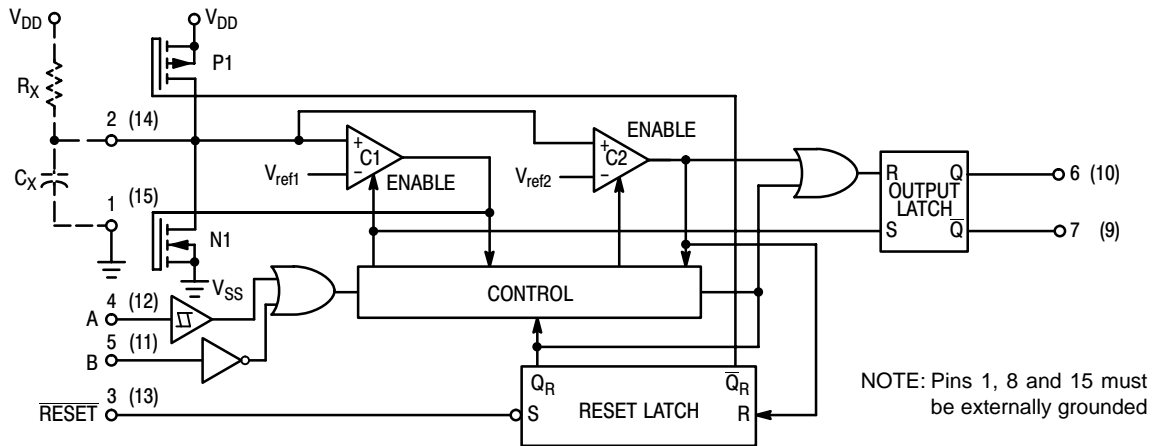

Figure 1. Logic Diagram
The block diagram of the MC14538B is shown in Figure 1, with circuit operation following.
As shown in Figure 1 and 10, before an input trigger occurs, the monostable is in the quiescent state with the Q output low, and the timing capacitor C_X completely charged to V_{DD} . When the trigger input A goes from V_{SS} to V_{DD} (while inputs B and $\overline{\text{Reset}}$ are held to V_{DD}) a valid trigger is recognized, which turns on comparator C1 and N-channel transistor N1 ①. At the same time the output latch is set. With transistor N1 on, the capacitor C_X rapidly discharges toward V_{SS} until V_{ref1} is reached. At this point the output of comparator C1 changes state and transistor N1 turns off. Comparator C1 then turns off while at the same time comparator C2 turns on. With transistor N1 off, the capacitor C_X begins to charge through the timing resistor, R_X , toward V_{DD} . When the voltage across C_X equals V_{ref2} , comparator C2 changes state, causing the output latch to reset (Q goes low) while at the same time disabling comparator C2 ②. This ends at the timing cycle with the monostable in the quiescent state, waiting for the next trigger.